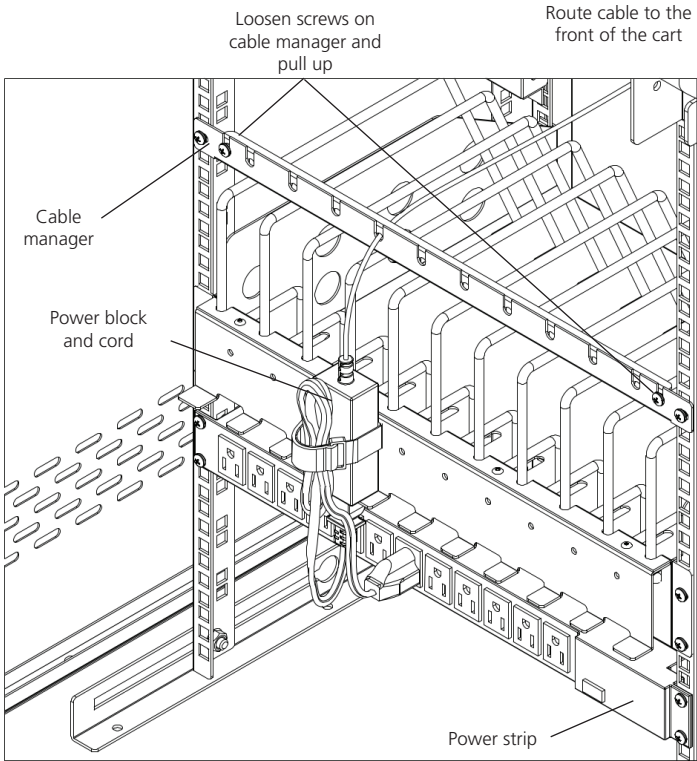

Figure 4-4. Fastening the power brick and routing the cable.
1. Attach the wrapped cord and power brick to the back of the shelf using the hook and loop strap. Keep some extra cable unwrapped to plug into the power strip. (See Figure 4-4.)